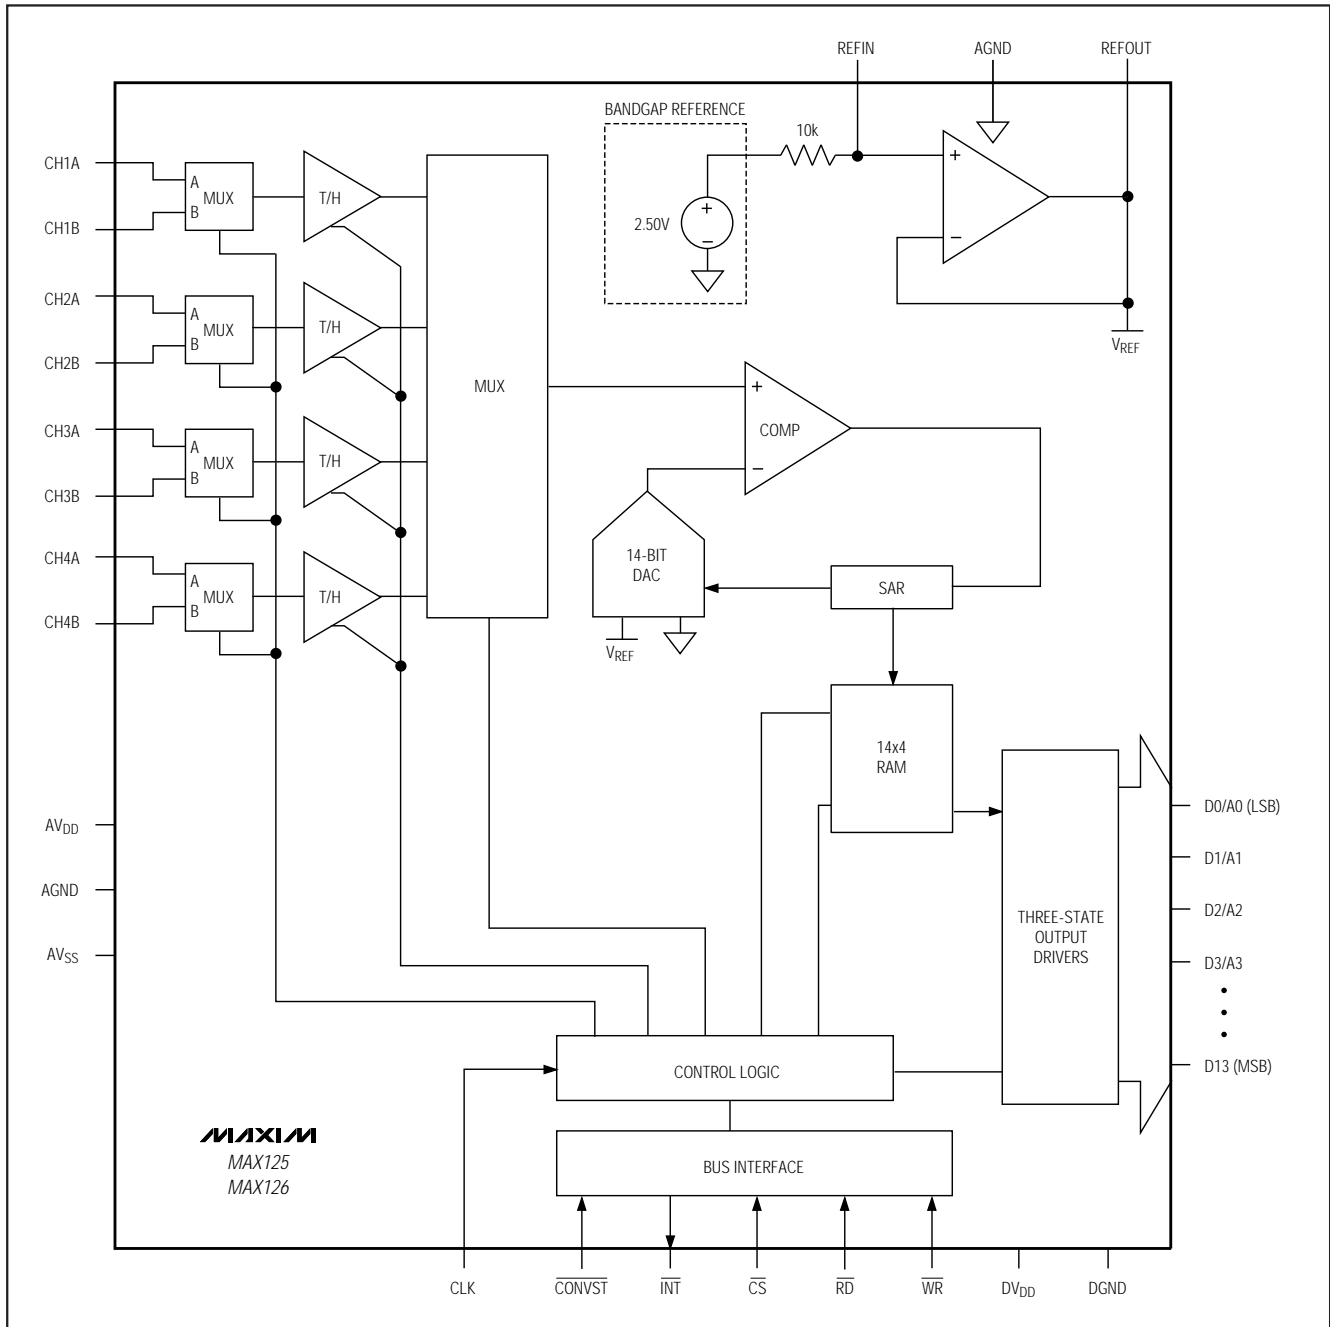

Figure 2. Functional Diagram
**Note 10:** See Figure 2.
The MAX125/MAX126 use a successive-approximation conversion technique and four simultaneous-sampling track/hold (T/H) amplifiers to convert analog signals into 14-bit digital outputs. Each T/H has two multiplexed inputs, allowing a total of eight inputs. Each T/H output is converted and stored in memory to be accessed sequentially by the parallel interface with successive read cycles. The MAX125/MAX126 internal micro-sequencer can be programmed to digitize one, two, three, or four inputs sampled simultaneously from either of the two banks of four inputs (see Figure 2).
The MAX125/MAX126 have eight conversion modes plus power-down, which are programmed through a bidirectional parallel interface. At power-up, the devices default to the mode *Input Mux A/Single-Channel Conversion*. The user can select between two banks (mux inputs A or mux inputs B) of four simultaneous-sampled input channels, as illustrated in Figure 2. An internal microsequencer can be programmed to convert one, two, three, or four channels of the selected bank per sample. For a single-channel conversion, CH1 is digitized, and then  $\overline{\text{INT}}$  goes low to indicate completion of the conversion. For multichannel conversions,  $\overline{\text{INT}}$  goes low after the last channel has been digitized.